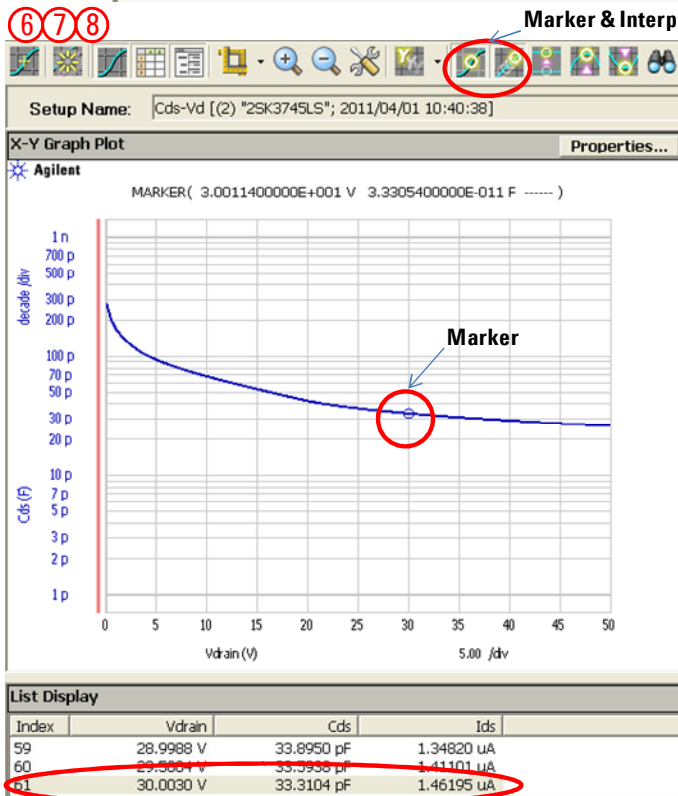

Figure 3-72. Cds-Vds output from Cds Application Test.
Step 8. You can see the Cds-Vdrain graph as shown in figure 3-72.
Figure 3-72 plots Cds in Y axis versus drain voltage Vdrain in X axis.
There is no Cds specification in 2SK3745LS datasheet, and the Coss output capacitance has to be calculated by adding Cds and Cgd. Cds can be read 33.3 pF from the marker value or List Display of figure 3-72.
Step 19. You can see the same graph shown in figure 3-72.
Note: Step 18 and 19 are the same as the step 7 and 8 of figure 3-72.